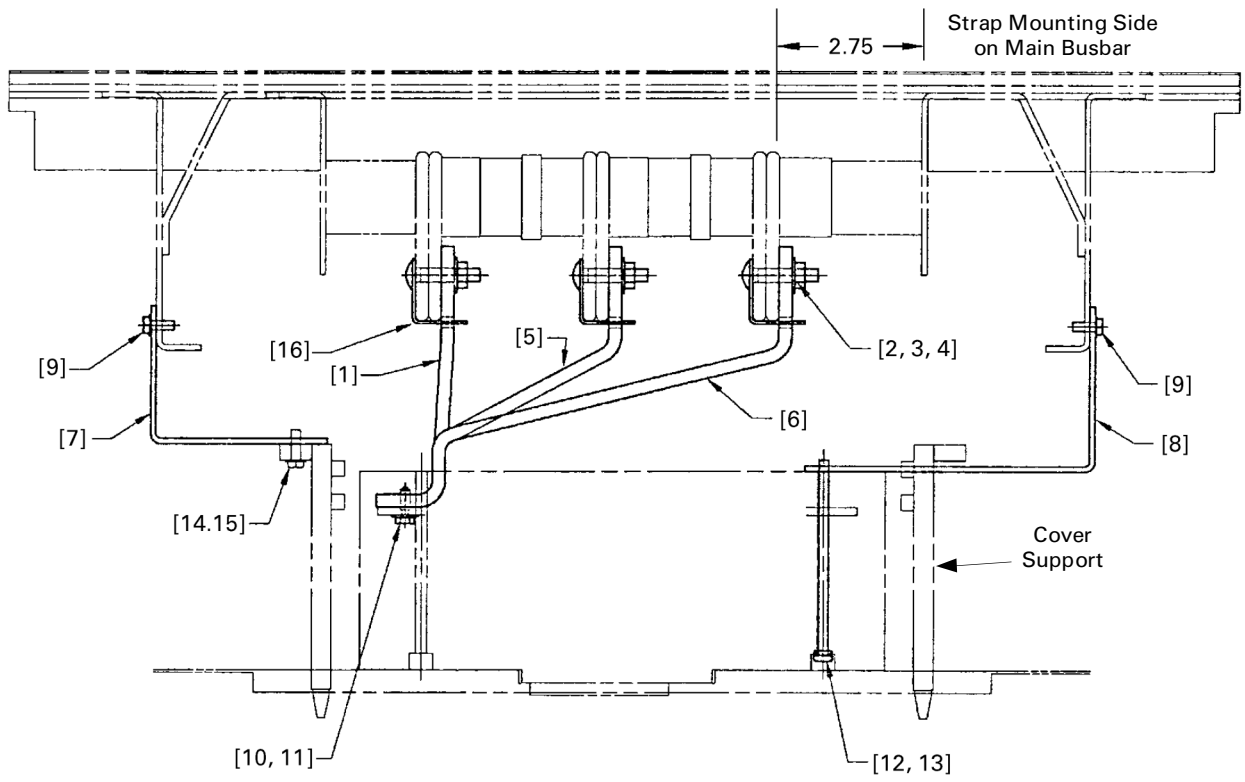

Figure 2. Single bolt-on circuit breaker assembly, end view.
**1. Install the circuit breaker straps.** Before installing into Spectra APNB bolt-on-style interiors, locate the side of the panel interior at which the dimension from the nearest vertical bus face to the inner face of the bus support rail is 2.75 inches, as illustrated in Figures 2 and 5. Mount the straps on this side of the vertical bus.